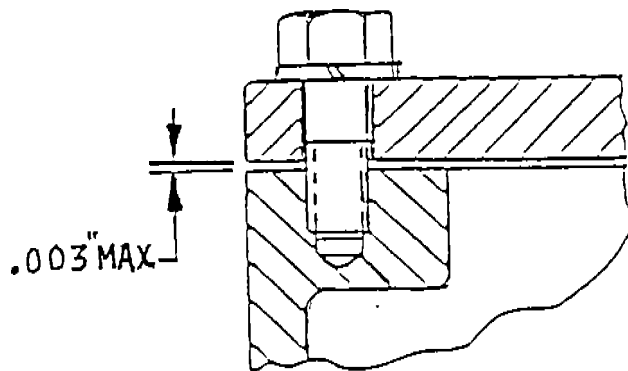
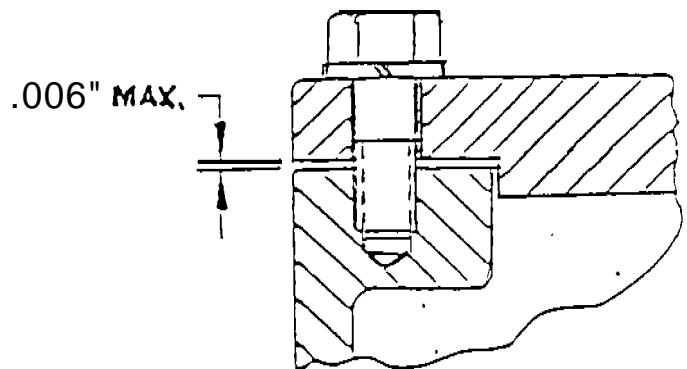

FIG. 3
FIG. 4
- (WEEKLY) 6. () Light Switch Cover has a maximum clearance of .003" between mating surfaces (.004" feeler gauge cannot be inserted, Fig.3). The bolted alternator cover has a maximum clearance of .006" between mating surfaces (.007" feeler gage cannot be inserted, Fig.4).